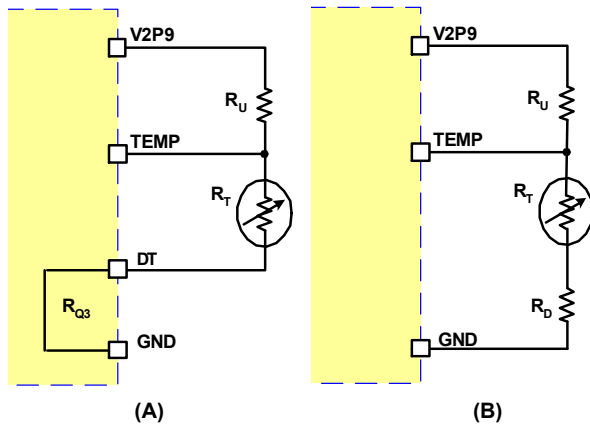

FIGURE 7. EQUIVALENT CIRCUITS FOR THE NTC DIVIDER
create a hysteresis for each comparator respectively. The DT pin is shorted to GND via the internal Q3 MOSFET when the charger is not charging, resulting in the equivalent circuit shown in Figure 7 (A). The on-resistance of Q3 is typically 50Ω and is negligible compared to the external resistors. When the charger starts to charge, Q3 is turned off to set a higher temperature range determined by the external resistor R_D . The equivalent circuit is shown in Figure 7 (B). The DT pin allows the user to set up a higher shut down ambient temperature after the charger starts up.